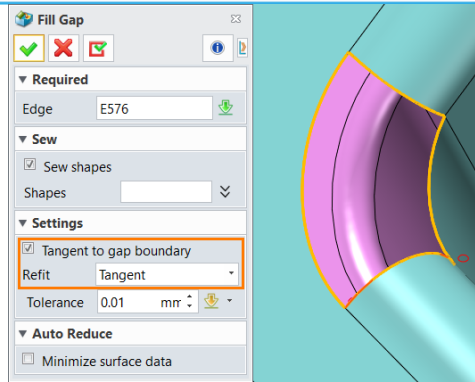

Figure 11 Fill Gap with Tangency to Gap Boundary
STEP 11 Continue to **Zoom to** another open edge. Use **Fill Gap** command, then pick the open edge. Setting is shown as Figure11.